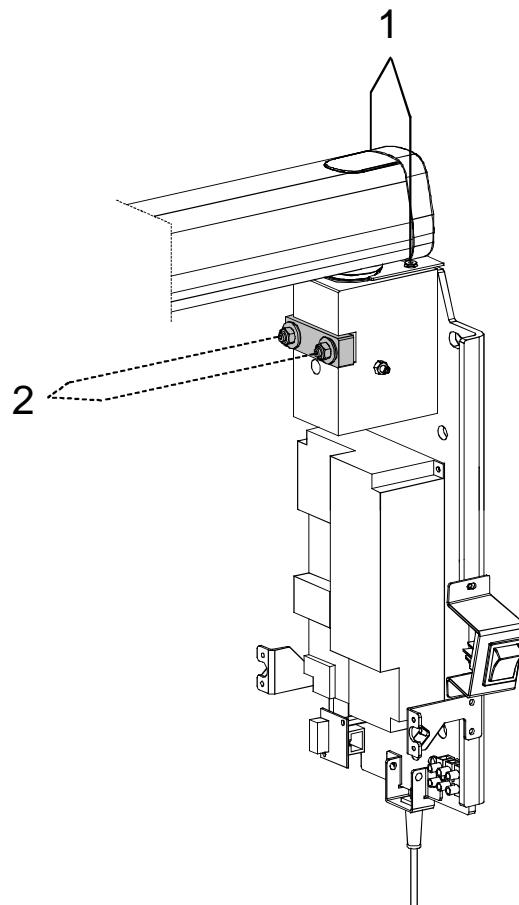

Figure 7-1
1. Remove the plastic timer cover by loosening the two sealing screws (1 - Figure 7-1) placed on the top part of the wall plate. Be careful to the cables connecting the timer and the plastic cover.
2. Using a 10 mm wrench, adjust the frictioning mechanism nuts (2 - Figure 7-1) until the movement of the arm is ergonomic.